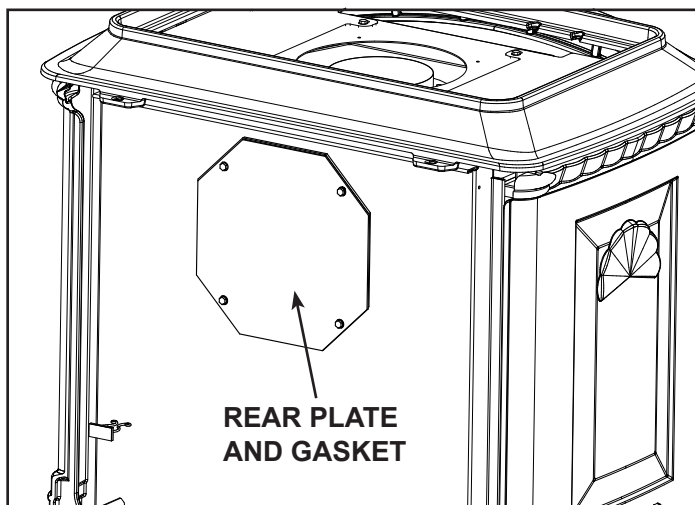
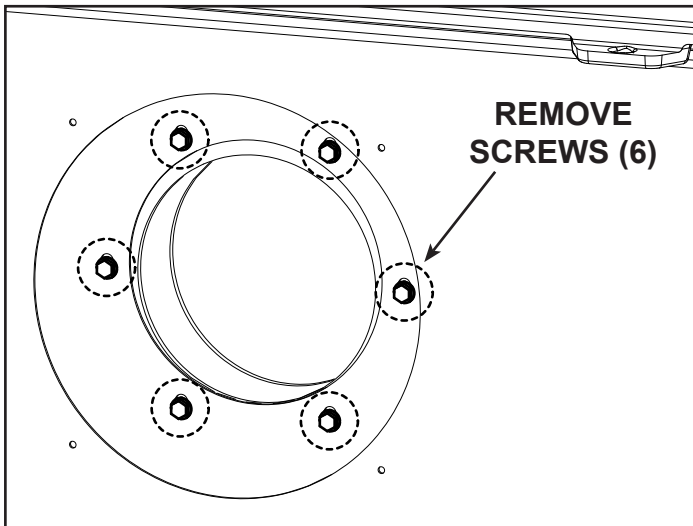
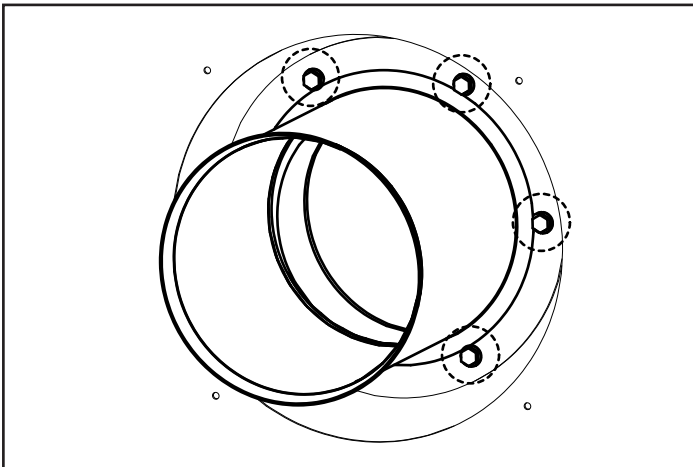

Figure 6.5
Figure 6.7 - Remove Screws Under Rear Access Plate
Figure 6.8 - Attach inner collar adapter to rear flue vent
2. Remove vent pipe adapter and gasket by removing 4 screws. Save the screws. (If gasket breaks, apply high-temp sealant to bottom of adapter before installing as shown in Figure 6.8.)
5. Remove rear access plate and gasket by removing four screws. Save the screws, Figure 6.5.
7. Remove six screws under the rear access plate removed in Figure 6.5. See Figure 6.7. Install inner pipe adapter and new gasket (included with kit) using six screws, Figure 6.8.
8. Install starting collar with gasket or high-temp sealant to rear vent opening. Attach with screws removed in Figure 6.5. Place grille gently into the opening on top of appliance. The grille does not have a hole and is included with the kit.